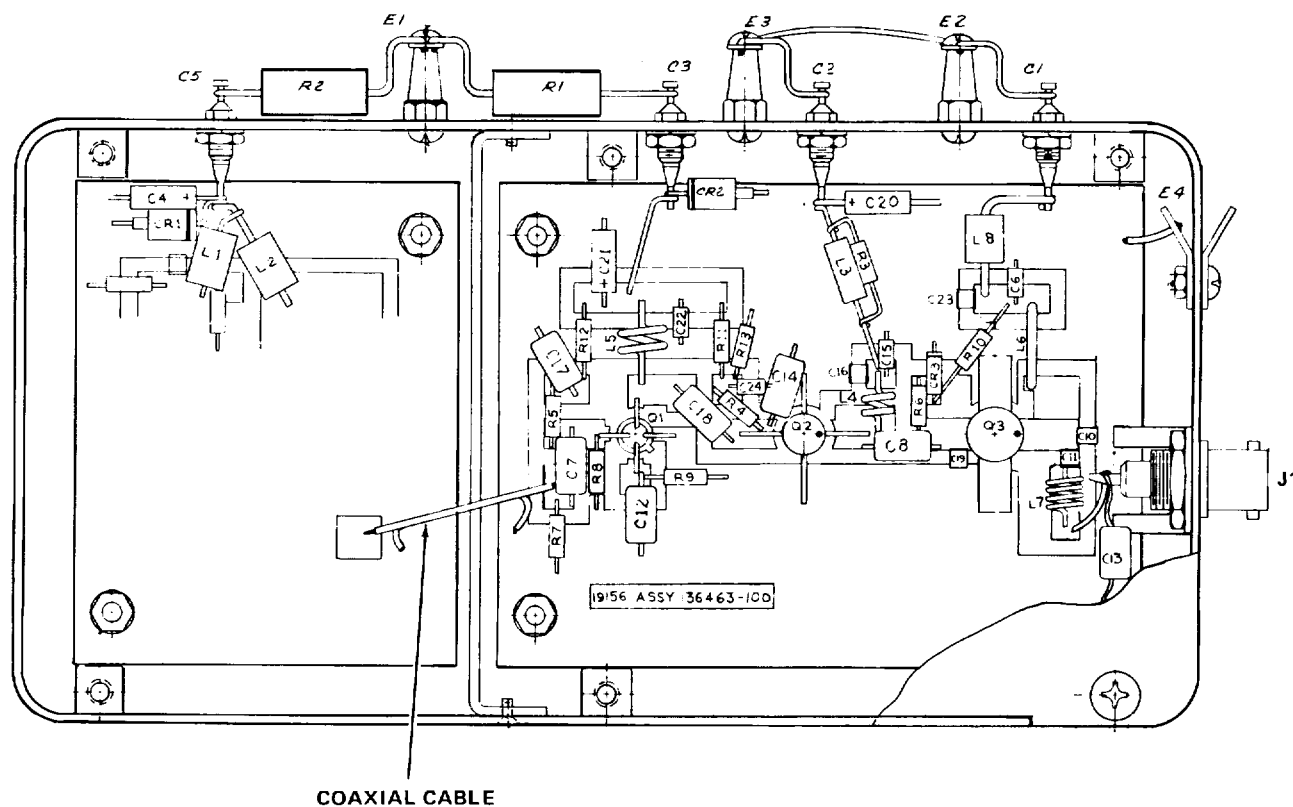
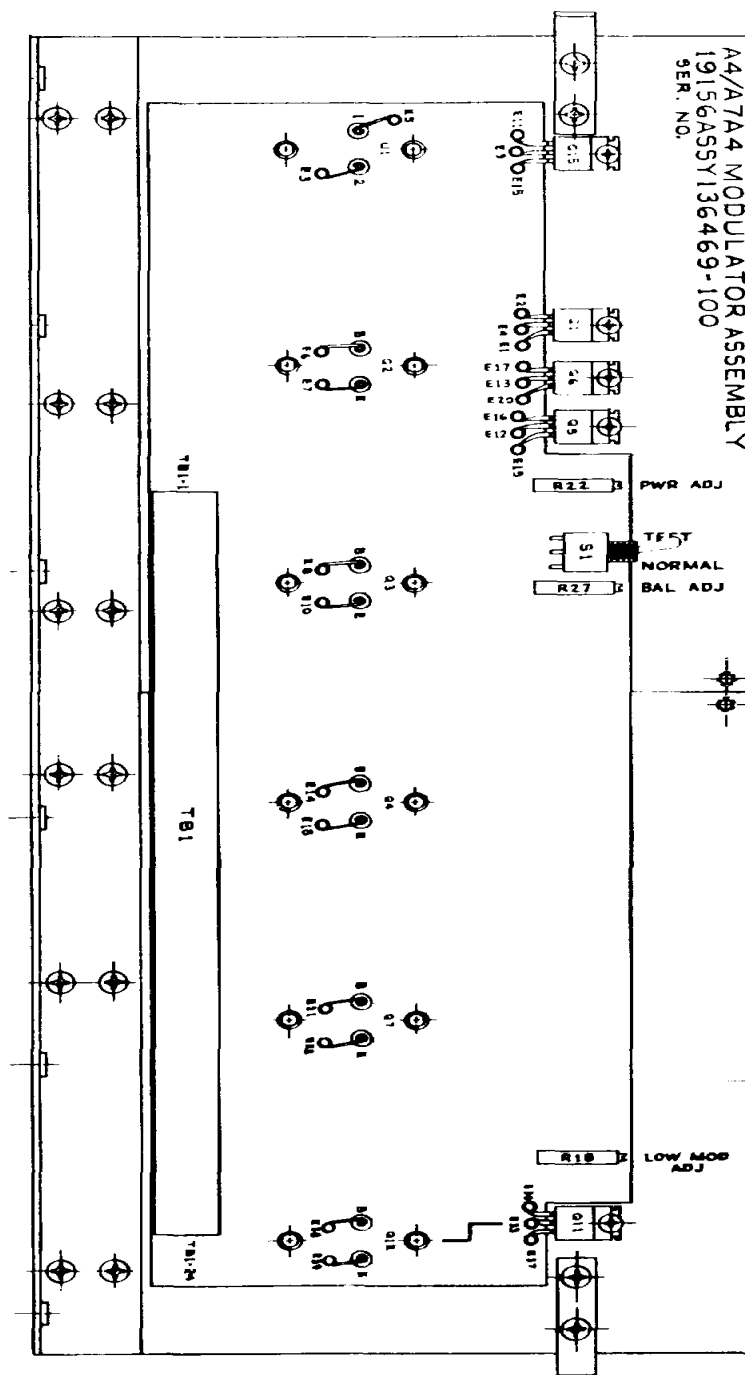

Figure 6-4. OSC/Exciter Assembly, 1A4A3 Parts Location Diagram
Figure 6-6. Modulator Assembly Circuit Card Assembly, 1A4A4 Parts Location Diagram
d. Oscillator/Exciter Assembly (1A4A3) Disassembly. This assembly should be removed only when servicing or component replacement is required. To remove this assembly perform the following procedures. Refer to figure 6-4 for location of component to be replaced.
- (1) Remove two screws and washers holding the oscillator/exciter assembly (1A4A3) in place.
- (2) Disconnect the coaxial cable from the oscillator/exciter assembly.
- (3) Disconnect the wiring from wiring terminals E1, E2, E3 and E4 by removing the terminals.
- (4) Remove the oscillator/exciter assembly from the chassis.
f. Exciter Circuit Card Assembly (1A4A3A1) Disassembly. To remove the exciter circuit card contained in the Oscillator/Exciter assembly, perform the following steps. Refer to figure 6-4 for location of component to be replaced.
- (1) Remove the two screws attaching the oscillator/exciter assembly to the chassis.
- (2) Remove the six screws on the cover of the assembly.
- (3) Unsolder leads from C3, C2, C1, E4 and J1.
- (4) Unsolder two leads from center conductor and shield.
- (5) Unsolder two leads from ground lug.
- (6) Remove hardware.
g. Modulator Assembly (1A4A4) Disassembly. This assembly should be removed only when servicing or component replacement is required. To remove this assembly from the radio transmitter (1A4) drawer, first remove the two screws from the end brackets. On the bottom of the drawer, remove the low pass filter and then remove the six screws across the bottom of the drawer. Disconnect and tag the wires from the terminal strip located on the modulator circuit card assembly. The wires are separated by ties to facilitate reconnection. Refer to figure 6-6 for location of component to be replaced. Further disassembly should be limited to removal of parts for repair or replacement.